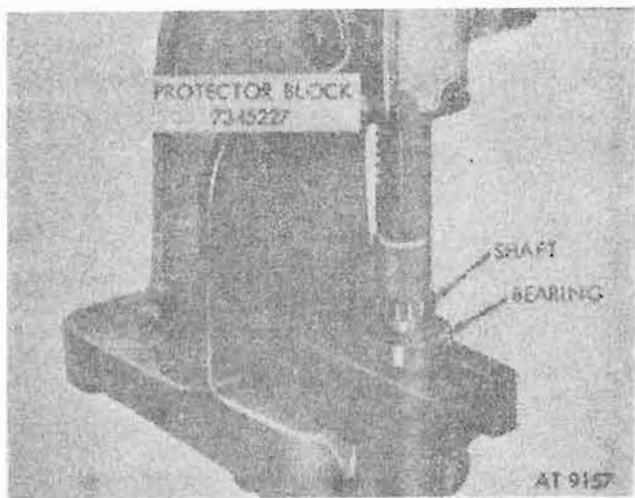

Figure 8-24. Installing front output bearing on output shaft.
c. Press front output bearing on output shaft using protector block (7345227)(fig. 8-24).